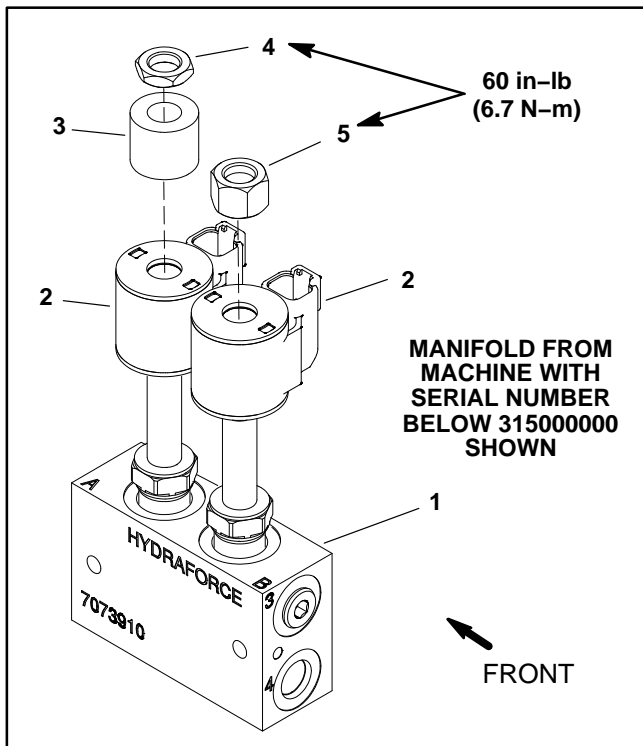
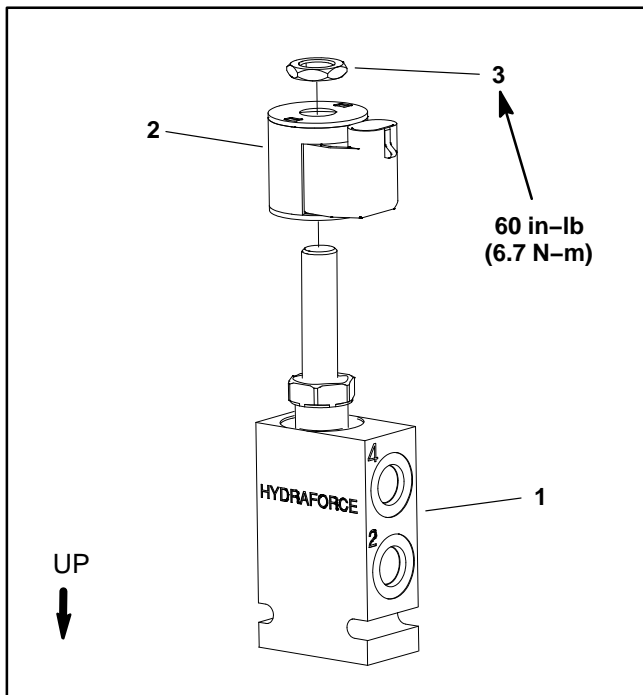

Figure 81
Figure 82
A hydraulic solenoid valve coil on the deck lift manifold (Fig. 81) or steering control manifold (machines with 4WD) (Fig. 82) can be replaced without opening the hydraulic system.
NOTE: The deck lift manifold solenoid valve coils on machines with serial number below 315000000 are identical (shown in Fig. 81). The coils on machines with serial number above 315000000 are different.
- A. Raise and support operator seat to gain access to deck lift manifold. Refer to Figure 81 for solenoid coil locations on the deck lift manifold.
- B. Raise and support operator seat to gain access to steering control manifold used on 4WD machines. Refer to Figure 82 for solenoid coil location on the steering control manifold.